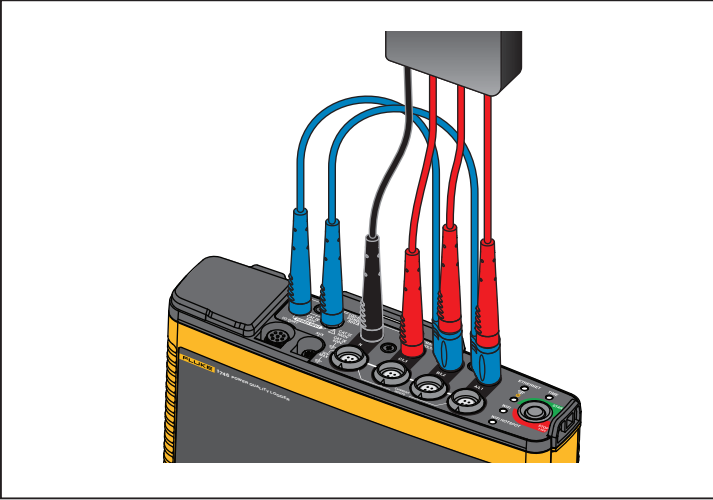

Figure 7C: Measurement without neutral voltage and supplying instrument power.
- To supply power to the Logger from installations without neutral voltage (see Figure 7C):